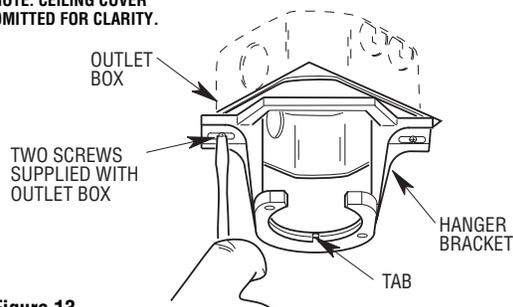
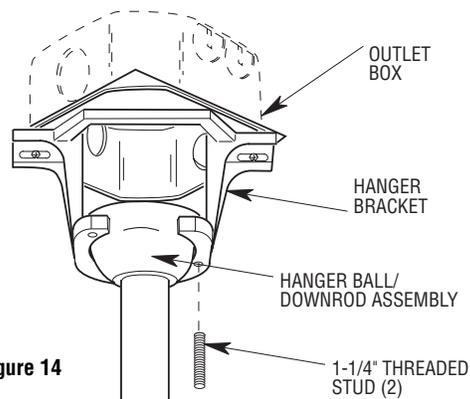

Figure 13
Figure 14
2. Securely attach the hanger bracket to the outlet box using the two screws supplied with the outlet box. (Figure 13.)
3. Carefully lift the fan and seat the hanger ball/downrod assembly on the hanger bracket that was just attached to the outlet box (Figure 13). Be sure the groove in the ball is lined up with tab on the hanger bracket (Figure 14).